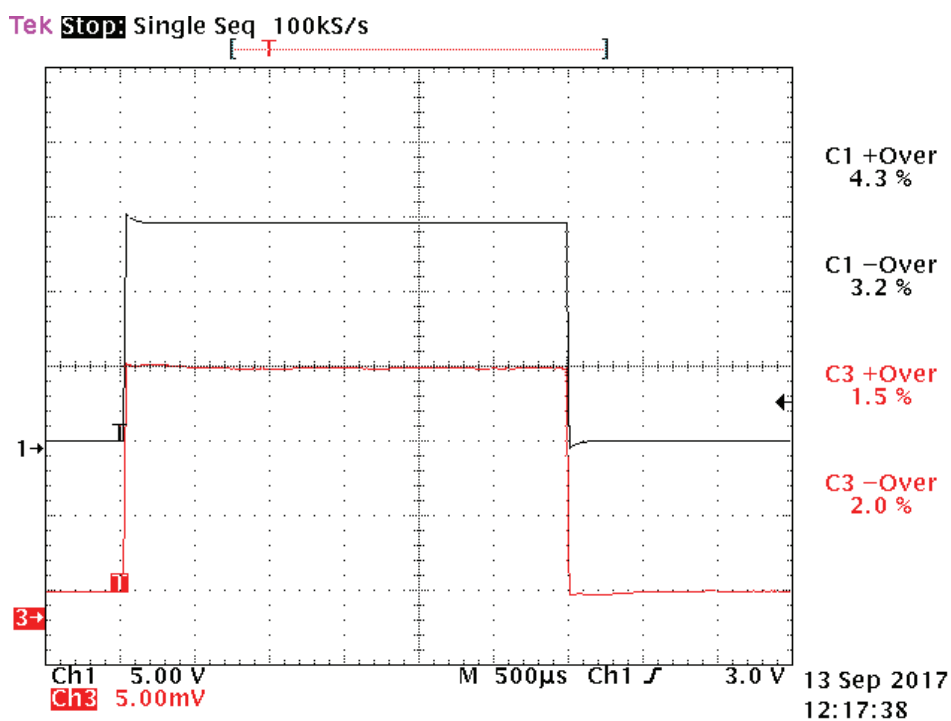

Figure 8. Final probe compensation wave forms.
4. **Long-Pulse Compensation (flat top):** Next set the sweep rate to $500 \mu\text{s}/\text{div}$. Adjust C3 and C1 to obtain the flattest top of the square wave. The final result is shown in Figure 8.